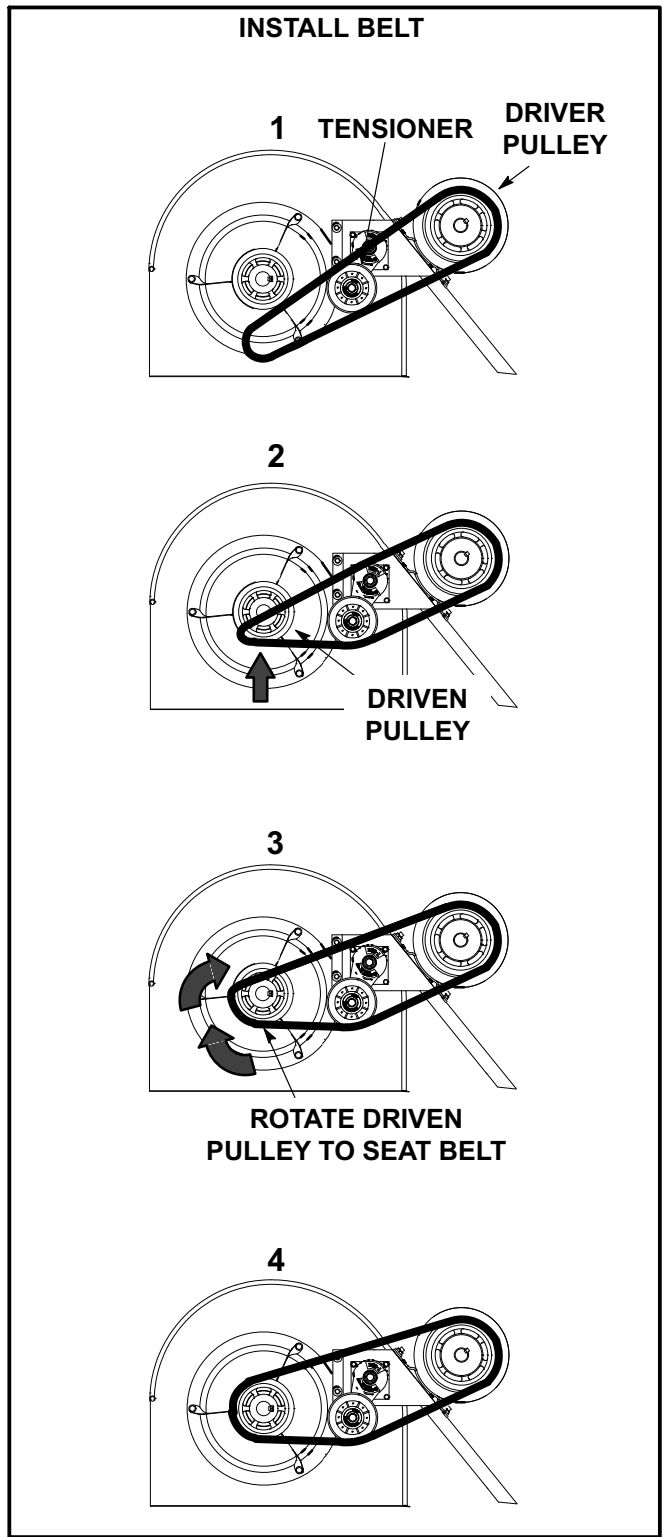

FIGURE 15
- 6- Replace blower belt. See figure 15.